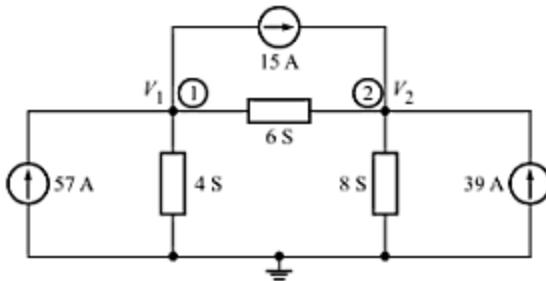

Fig. A-67
- A-25. Find the node voltages in the circuit shown in Fig. A-67. [Ans. $V_1 = 8.77\text{ V}$, $V_2 = 7.62\text{ V}$]